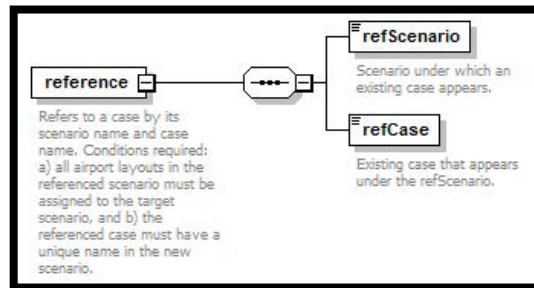

Figure 55. reference -> case and scenario
8. **AsifXml/study/scenario/case/reference** (Figure 55):